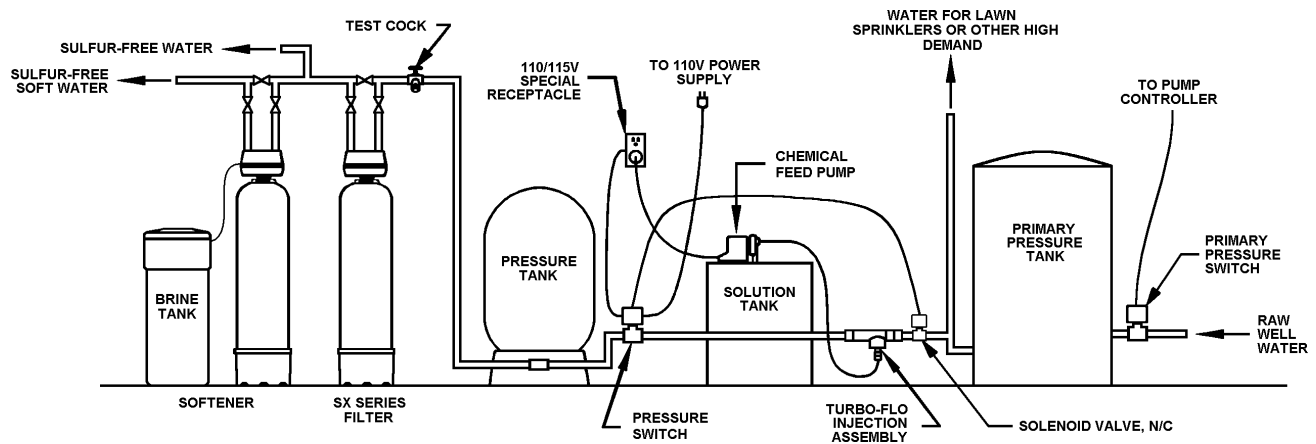
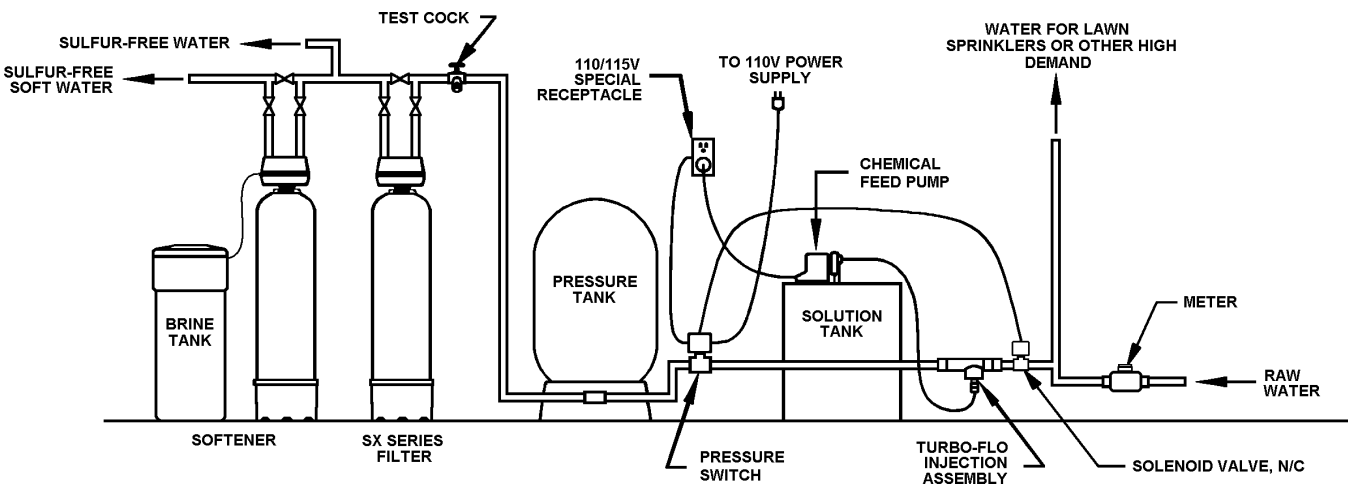

Figure 2. SPLIT-STREAM INSTALLATION
Figure 3. PUBLIC WATER SUPPLY INSTALLATION
- (1) All installation procedures MUST conform to local and state codes.
- (2) If lawn sprinkling, a swimming pool, geothermal heating/cooling or water for other similar devices is required, a split-stream type installation must be employed (Figure 2 or 3). SUL-X Filters are not designed to handle the high flow rates required for such applications. The pumping
NOTE: If installation is to be SPLIT-STREAMED or PUBLIC WATER SUPPLY prior to MEDIA TANK (Figure 2 or 3) refer to special instructions following STEP 14.
IMPORTANT INSTRUCTIONS: IF WATER IS SUPPLIED BY A PUBLIC OR COMMUNITY SOURCE, OR WATER LINE IS SPLIT-STREAMED ANYWHERE AHEAD OF THE FILTER TANK (See Figure 2):
When water is supplied from a public water system, (Figure 3) or it is split-streamed prior to the filter tank (Figure 2) note the placement of the solenoid valve. The HIGH setting of the pressure control switch (which controls the opening and closing of solenoid valve) must be set a minimum of 2 to 3 lbs. LOWER than the normal LOW pressure encountered on the supply system. FAILURE TO DO THIS WILL NOT ALLOW PROPER CLOSING OF THE SOLENOID VALVE DURING PERIODS OF LOW SYSTEM PRESSURE.